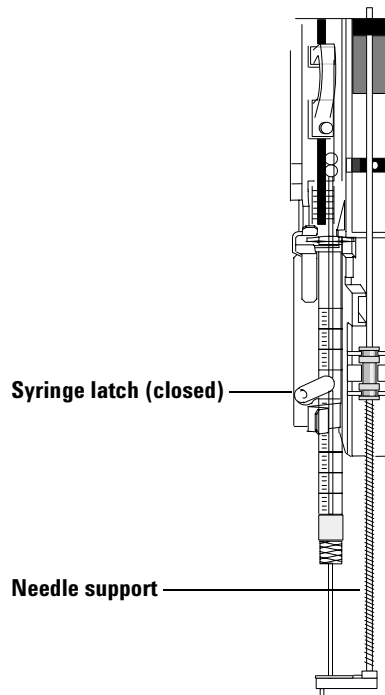

Figure 57 Syringe carriage and needle support with syringe installed
- 8 Check that the needle is aligned with the needle guide in the foot by moving the slide up and down. The needle should slide smoothly in the needle guide. See Figure 57.